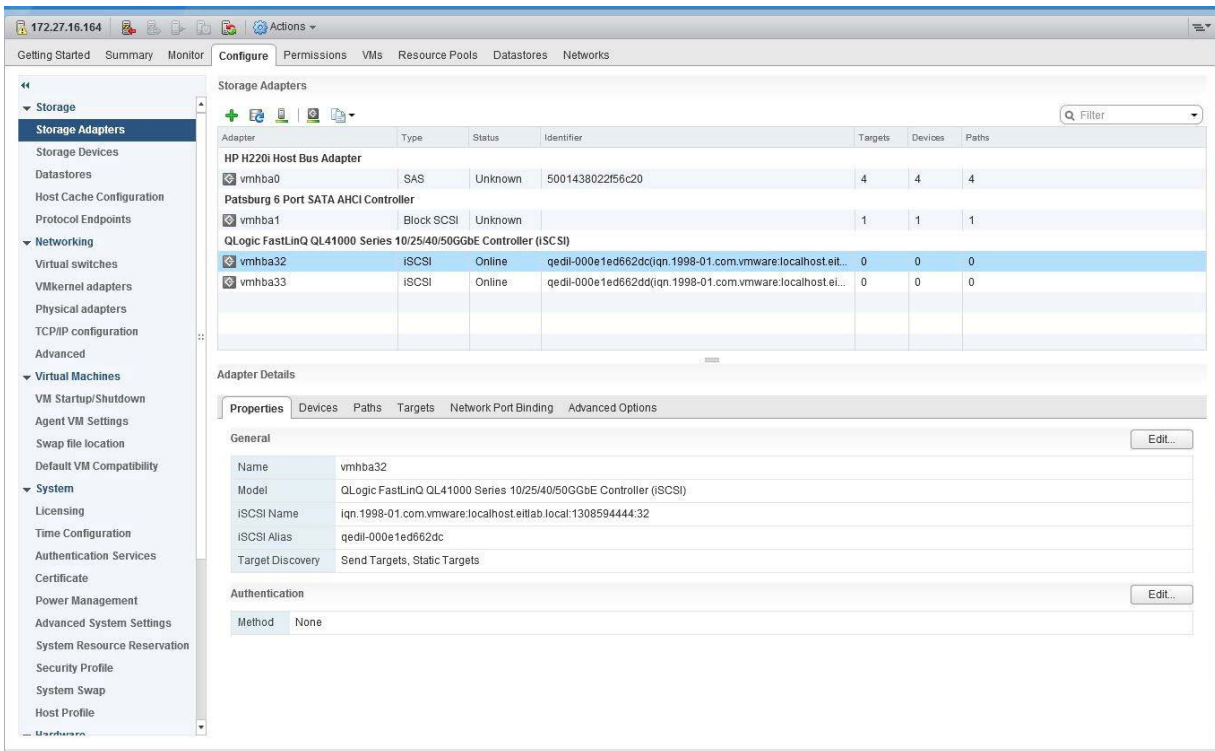

Figure 3-2. Storage Adapters
- a. In the tree pane on the left under **Storage**, click **Storage Adapters** as shown in Figure 3-2.